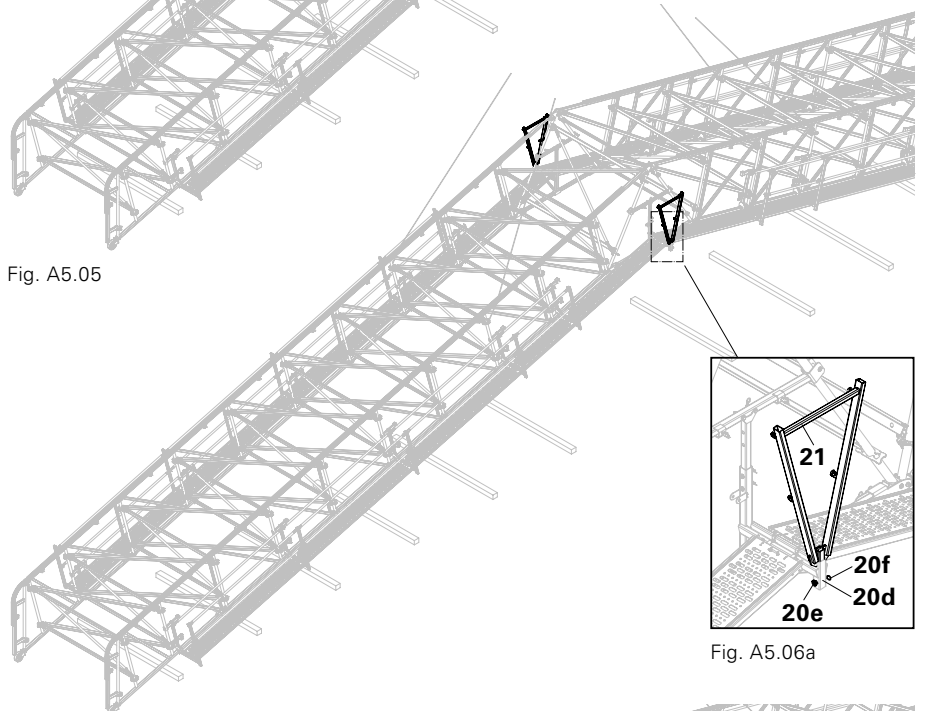

Fig. A5.06a
Remove Cotter Pins (20f) and Bolts (20e) from the rectangular tube of the Ridge Console. (Fig. A5.06a)
3. Secure Bolts (20e) and Cotter Pins (20f). (Fig. A5.06a)